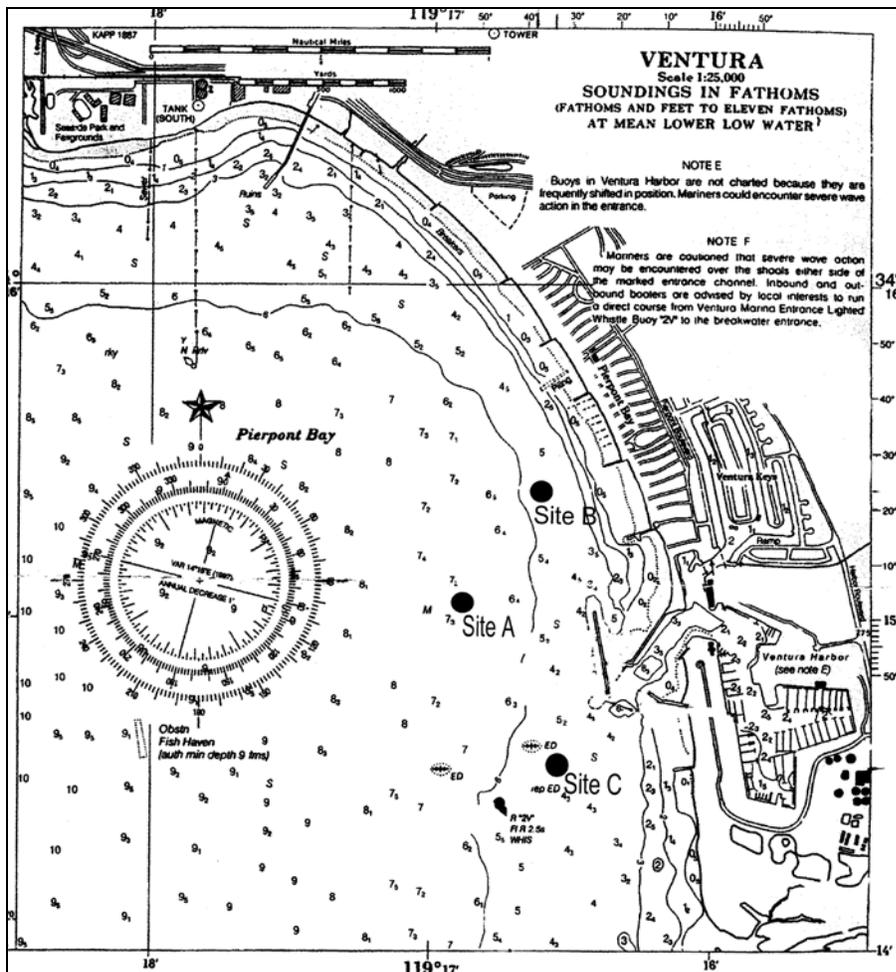

Figure 28 Locations of Pre-selected Deployment Sites
Three locations have been pre-selected for buoy deployment (Table 1 and Fig. 28). The primary site (A) is in 40 ft of water, approximately 0.4 n mile W of the northern end of the breakwater. An alternate site (B), 0.4 n miles NNW of the northern end of the breakwater, will experience less reflected wave energy during events with a strong southerly component. A third site (C) is located in the center of the entrance channel, about halfway between the harbor entrance and sea buoy. Site C experiences the most dangerous conditions when navigating the entrance channel, according to Scott Miller. Deployments at this site would have to be during daylight hours only and under conditions when minimal traffic was expected in the entrance channel. The decision of which site to use for a deployment should be made in coordination with CESPL.